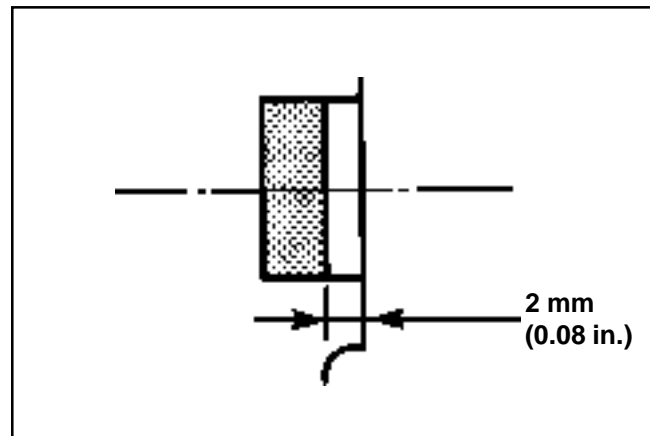

Figure 11-47. Oil Seal Installation Depth.
2. Install a new oil seal in cover, to a depth of 2 mm (0.08 in.) See figure 11-47. Apply a light coating of lightweight lithium grease to the lip of the seal.